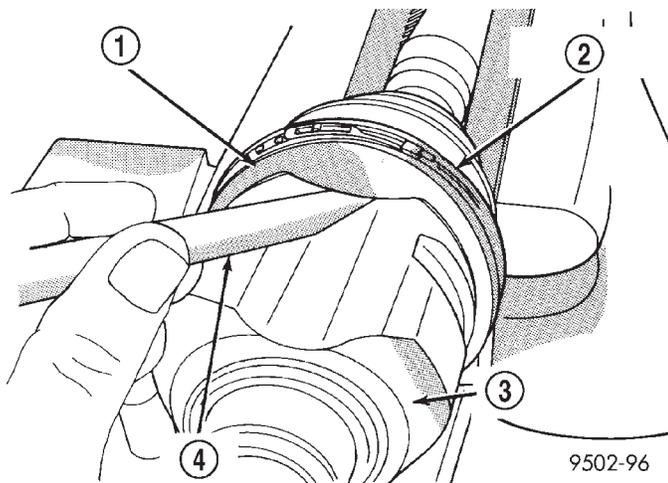

Fig. 29 Trim Stick Inserted for Venting Tripod Joint
(9) Insert a trim stick between the tripod joint and the sealing boot to vent inner tripod joint assembly (Fig. 29). **When inserting trim stick between tripod housing and sealing boot, ensure trim stick is held flat and firmly against the tripod housing. If this is not done, damage to the sealing boot can occur.** If inner tripod joint has a Hytrel (hard plastic) sealing boot, be sure trim stick is inserted between soft rubber insert and tripod housing, and not the hard plastic sealing boot and soft rubber insert.